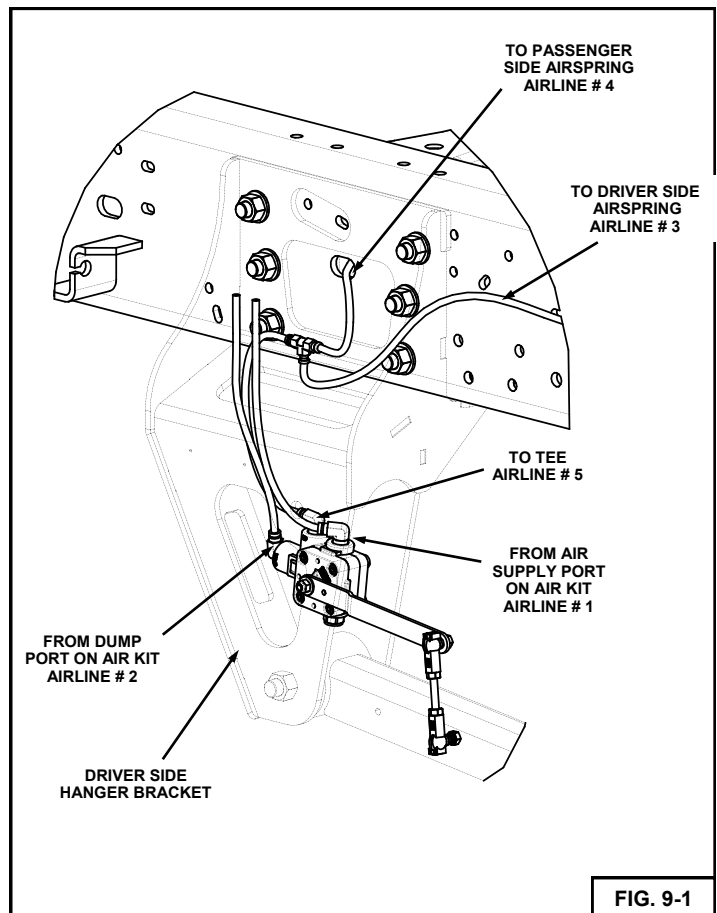

FIG. 9-1
2. Route the (5) airlines as shown in Figure 9-1, 9-2 and 9-3.